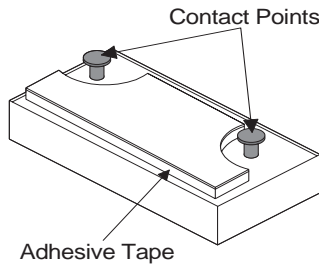

Figure 3. Detector Components (Shown Upside-Down)
- Short across the detector by wrapping the wire around the two contact points (see Figure 3).
- Trip the sensor by shorting across the detector by wrapping the wire around the two contact points (see Figure 3).